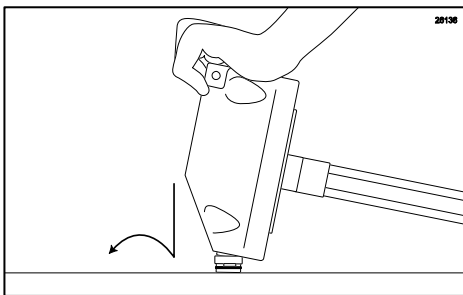

Figure 89
9. Set the Adapter on a flat, clean surface, and then place the freezer door spout upright onto the Adapter. Rock the freezer door forward to snap the Adapter into place. (See Figure 89.)